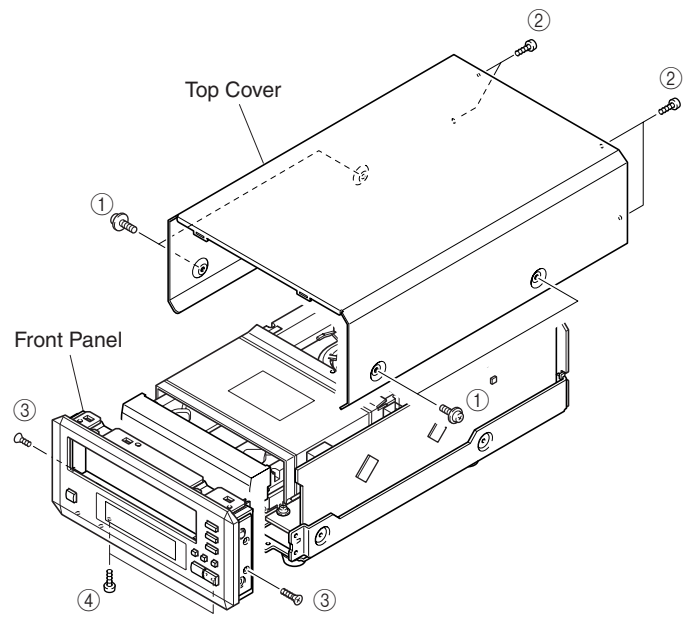

Fig. 1
- a. Remove 4 screws (①) and 4 screws (②) in Fig. 1.
- b. Remove 2 screws (③) and 2 screws (④) in Fig. 1.
- c. Remove the Front Panel Unit forward in Fig. 1.